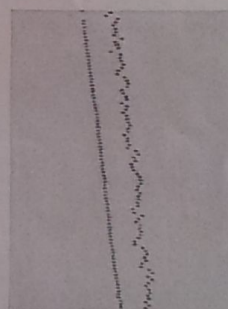

Fig. 31
- bad rate tracings.** Dots out of alignment in the instantaneous rate tracings show that the magnetic return action is out of adjustment, fig. 31.